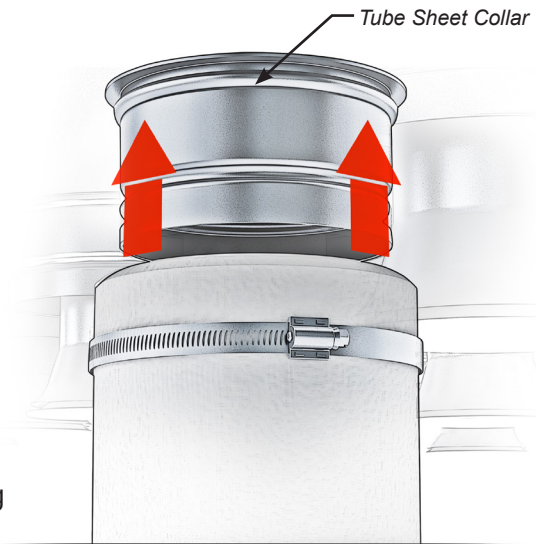

FIGURE 10
- 5. Slip the retainer/bag/clamp assembly over a collar in the tube sheet (see Figure 10).